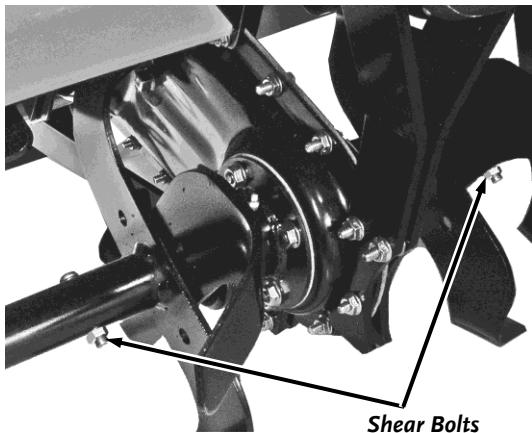

Figure 25
- The DR ROTO-HOG Power Tiller drive components are protected from damage by Shear Bolts in the Tine Assemblies (*Figure 25*). The Shear Bolts hold the Tine Assemblies in proper location on the Drive Axles. Should a Tine Assembly strike or pick up a large hidden object and jam, the Shear Bolt holding the Tine Assembly to the drive shaft will shear or break, protecting the drive components of the DR ROTO-HOG Power Tiller from major damage.